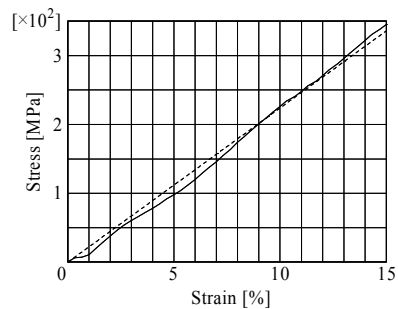

Fig. 1 Tensile stress-strain diagram
- h) *Figures and Tables:* Use the high resolution (300dpi or above) figures, plots, drawings and photos. Try to position figures and tables at the tops and bottoms of columns and avoid placing them in the middle of columns. Large figures and tables can cover both columns. Figure captions should be centered below the figures; table captions should be centered above. Avoid placing figures and tables before their first mention in the text. Use the abbreviation "Fig. #," even at the beginning of a sentence. Use words rather than symbols for Figure axis labels as shown in Fig. 1. Put units in parentheses. Do not label axes only with units.
- j) *Equations:* Number equations consecutively with equation numbers in parentheses flush with the right margin, as in Eq. (1). Punctuate equations with commas or periods when they are part of a sentence, as in